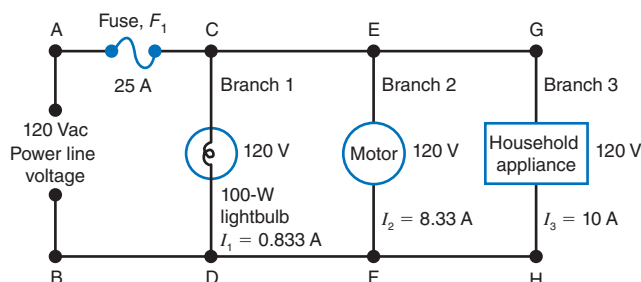

Figure 13-16
- 13.5 Figure 13-16 shows a parallel circuit with its normal operating voltages and currents. Notice that the fuse in the main line has a 25-A rating. What happens to the circuit components and their voltages and currents if